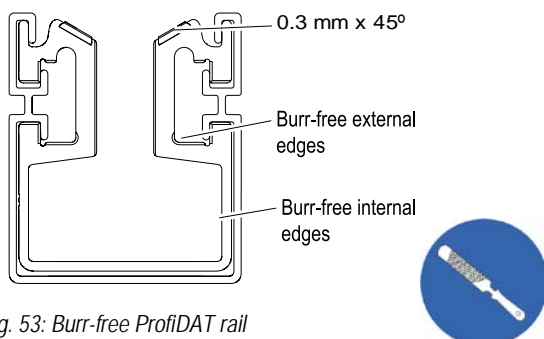

Fig. 53: Burr-free ProfiDAT rail
- After cutting the aluminium rail to size, create a chamfer of max. 0.3 mm x 45° on the aluminium rail using a key file (see Fig. 53). This is important to prevent wear of the sliding contacts! File burrs off all other sharp rail edges with a key file!